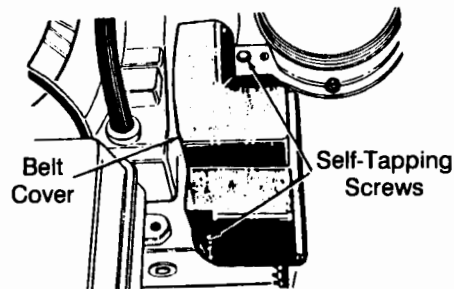

FIGURE 25 - Chute removed for clarity.
- Remove the plastic belt cover on the front of the engine by removing two self-tapping screws. See Figure 25.